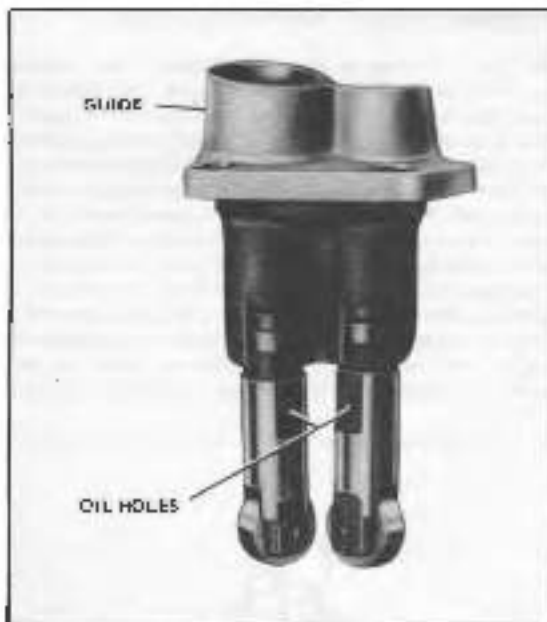

Figure 3-28. Inserting Tappets on Guide
Assemble tappets as follows. Slip tappets (5) into guide (4) so flat surfaces on tappets are toward center of guide as shown in Figure 3-28. If flat surfaces with holes are not toward center of guide, engine oil will not feed across and one hydraulic unit cannot fill with oil. Assemble tappet guide gasket dry and insert tappet assembly in place on gearcase, holding tappets in place with thumb and forefinger as when unit was removed.